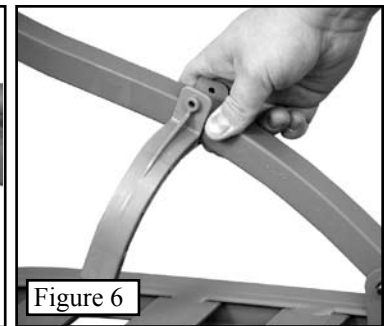
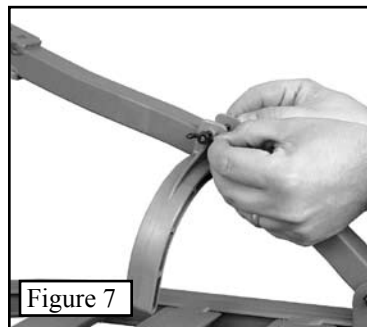
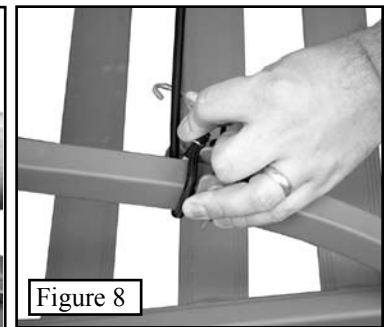
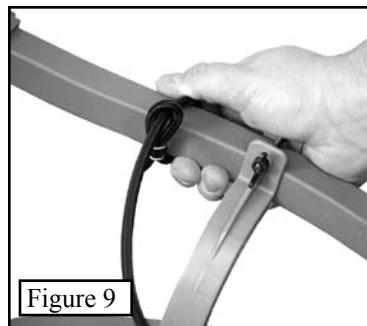

Figure 6
Figure 7
Figure 8
Figure 9
RapidClimb Stirrups. The two (2) RapidClimb stirrups fit on the curved upright arms of the platform. Simply slide one stirrup on each side of the platform so that they are on the inside of the platform and facing down as shown in **Figure 6**. Once positioned, secure with the bolt and wing nut provided as show in **Figure 7**. Occasional readjustment may be required as your footwear needs change. Wrap the supplied bungee cord around one side of the curved platform upright bars and push the S-hook through the loop as shown in **Figure 8**. Hook the S-hook around the opposite curved platform upright bar and back onto itself as shown in **Figure 9**. The stirrups may have to be adjusted for the stand to fold flat.